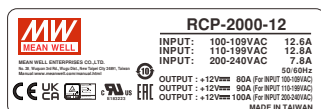

Figure1-1 Safety labels of RCP-2000
- ⊙Please refer to the safety label on top of each unit before operating (Figure 1-1~1-3).